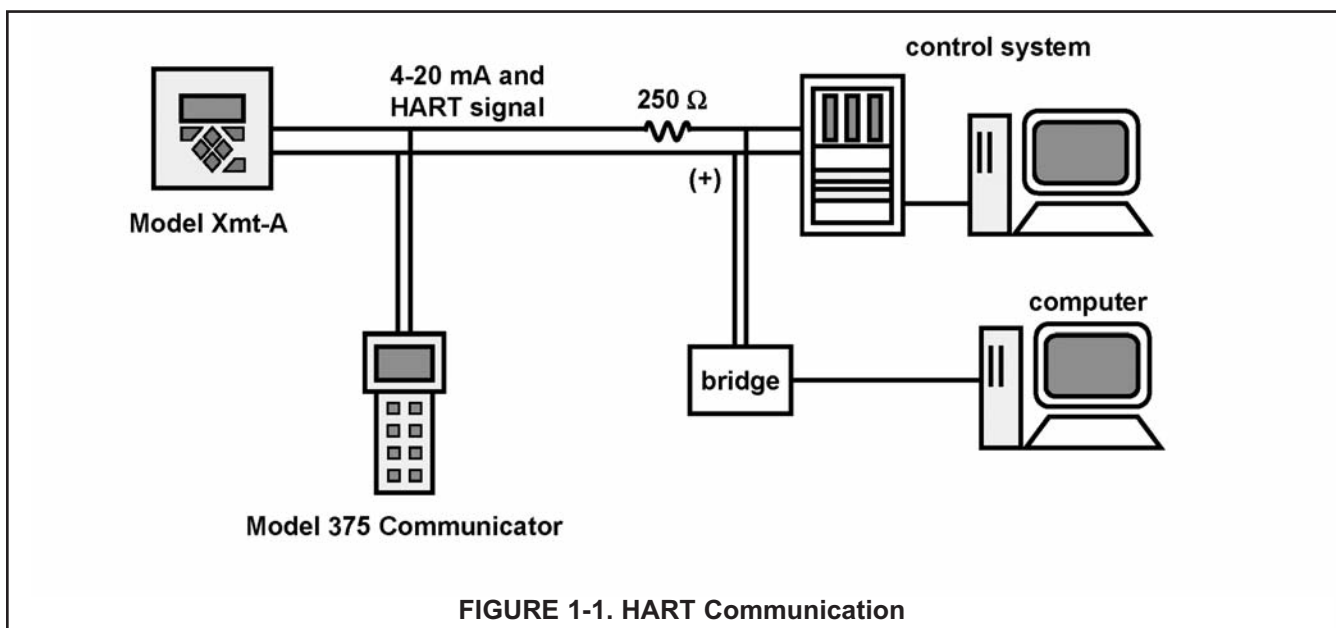

FIGURE 1-1. HART Communication
1.9 HART COMMUNICATION (Figure 1-1)